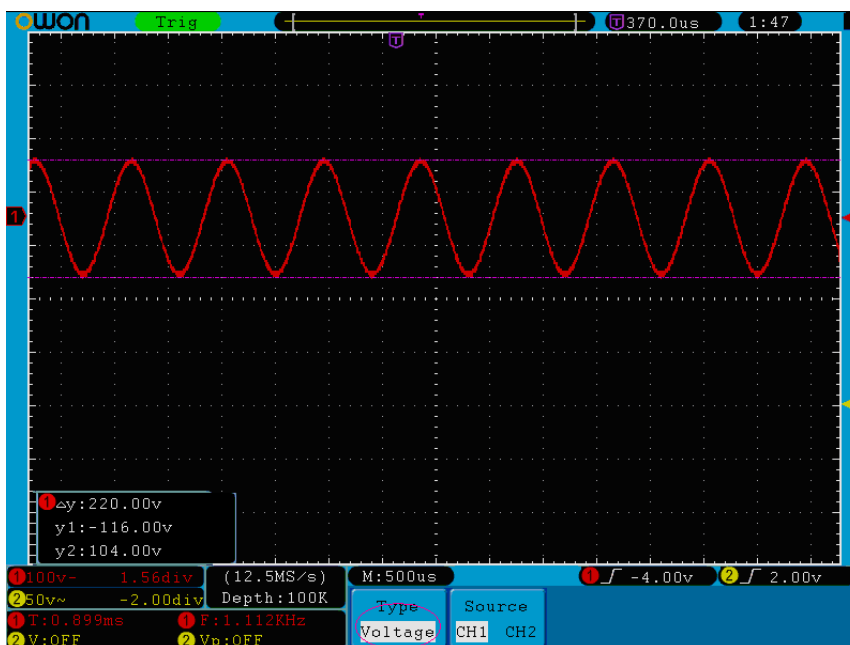

Figure 5-53 Waveform of Voltage Cursor Measurement
The SDS series oscilloscopes provide automatic voltage measurements including PK-PK, Max, Min, Mean, Vamp, Cycrms, Vtop, Vbase, Overshoot and Preshoot. *Figure 5-53* below shows a pulse with some of the voltage measurement points.
4. According to the measured waveform, adjust the positions of Cursor1 and Cursor2 by turning the **VERTICAL POSITION** knob of CH1 and CH2. Cursor increment window at the left bottom of waveform shows absolute value of D-value of cursor 1 and cursor 2 and the present position of the two cursors (see *Figure 5-53*).